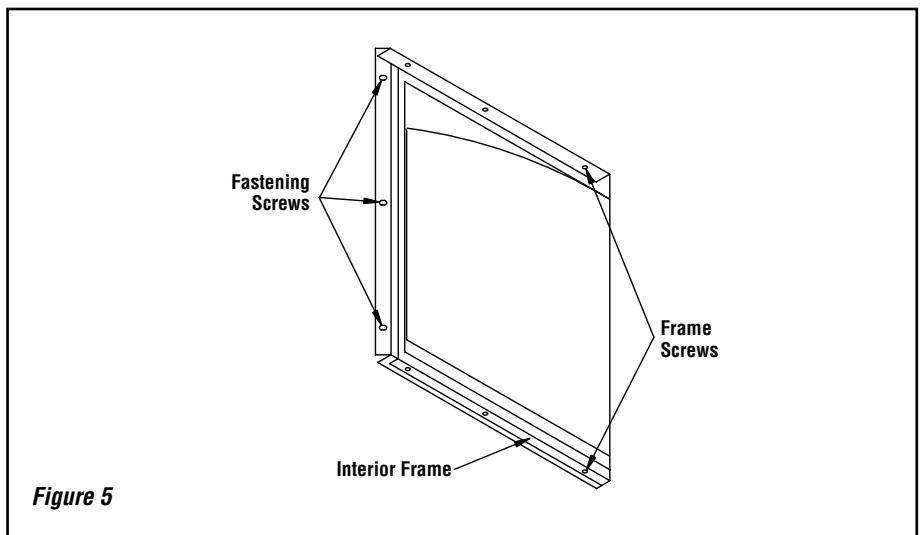

Figure 5
The glass doors can be adjusted by loosening the three (3) screws of the hinges' supports (see fastening screws in **Figure 5**). If a minor angular adjustment is needed, you may loosen only two (2) of the three (3) screws using the other as a pivot point.
The glass used for the HE43-2 fireplace is a high temperature ceramic glass (1,400° F / 760° C). If the glass breaks, it must be replaced with an identical ceramic glass. Tempered glass or ordinary glass will not withstand the high temperatures of the HE43-2 fireplace. Replacement glass should be purchased from a Security Chimneys International dealer (see "Replacement Parts", **Page 24**). **DO NOT OPERATE THE UNIT WITH CRACKED OR BROKEN GLASS.** To remove the glass, unscrew the frame fastening screws (see **figure 5**), remove the interior frame and the glass.